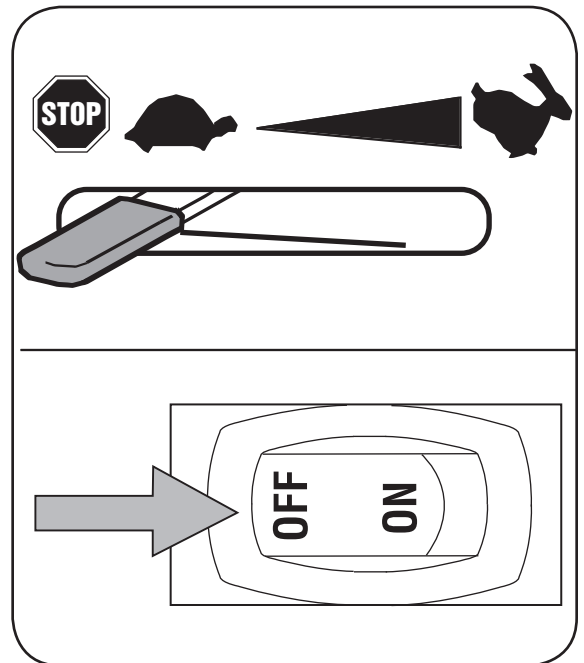

Figure 6
1. Move throttle control lever to STOP position (Model 414) or push rocker switch to OFF (Model 424). See Figure 6.